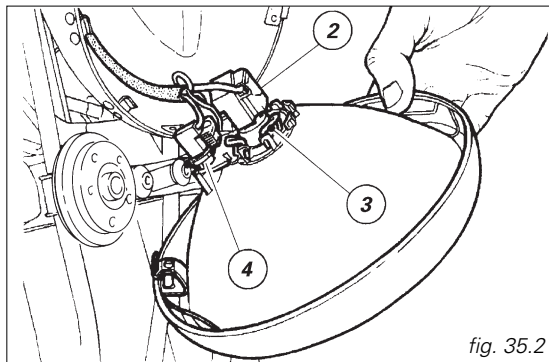

fig. 35.2
To gain access to headlamp bulbs, slacken the lower screw (1) holding the rim-reflector assembly to the body and disconnect the connector (2, fig. 35.2) from the headlamp. Release the clip (3, fig. 35.2) that secures the bulb and remove it from the socket.
To change the parking light bulb, withdraw the bulb holder (4, fig. 35.2). The bulb is of the bayonet-type: press and rotate anti-clockwise to remove. Fit the spare bulb by pressing and turning clockwise until it clicks. Fit the bulb holder again and assemble the rim-reflector assembly.